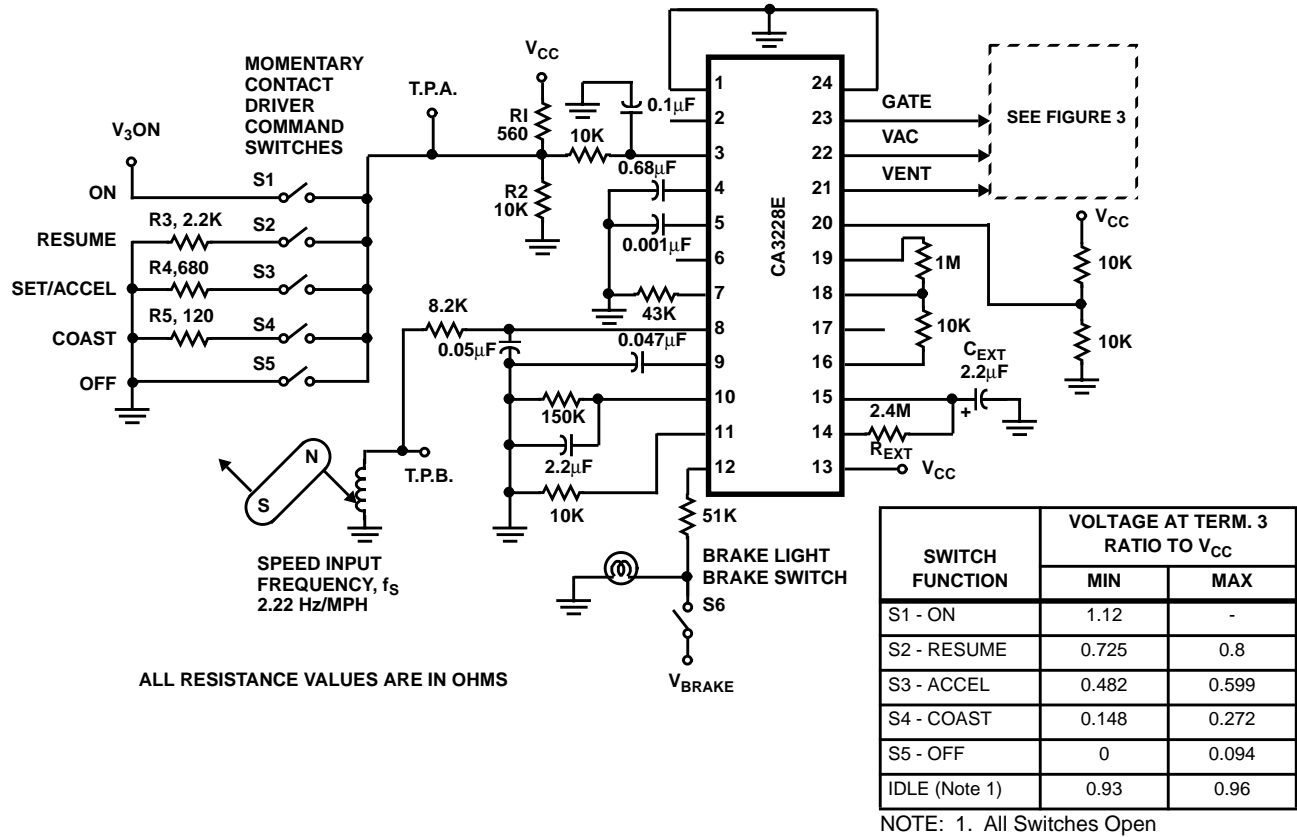

FIGURE 2. TYPICAL AUTOMOTIVE SPEED CONTROL APPLICATION
## Electrical Specifications $T_A = +25^\circ\text{C}$ , $V_{CC} = 8.20\text{V}$ , Unless Otherwise Specified (Refer to Figures 2 and 3)
**Electrical Specifications**  $T_A = +25^\circ\text{C}$ ,  $V_{CC} = 8.20\text{V}$ , Unless Otherwise Specified (Refer to Figures 2 and 3) **(Continued)**